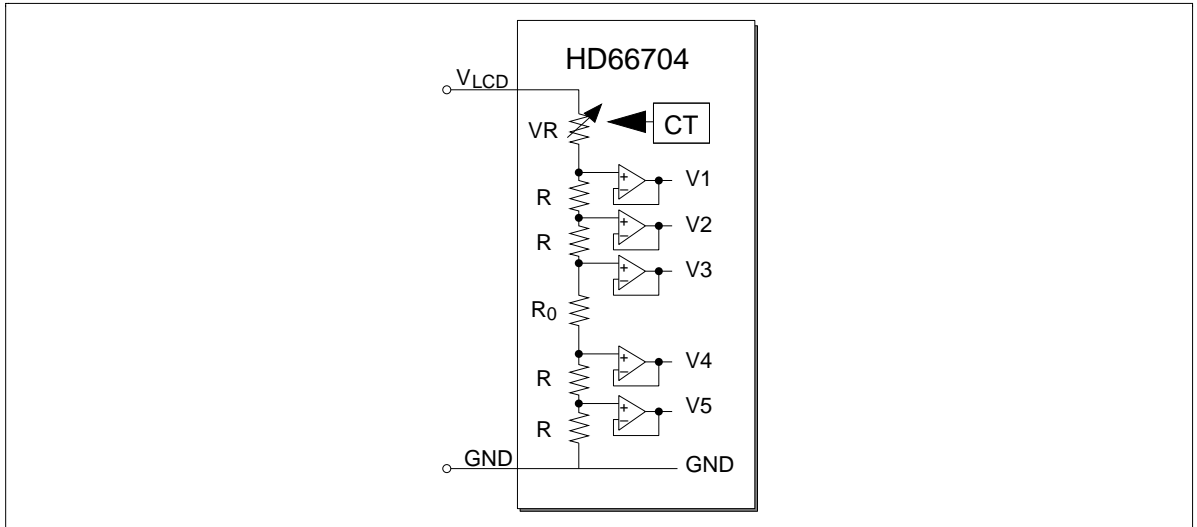

Figure 27 Contrast Adjuster
Contrast for an LCD can be adjusted by varying the liquid-crystal drive voltage (potential difference between VLCD and V1) through the CT bits of the contrast control instruction (electron volume function). See figure 27 and table 23. The value of a variable resistor (VR) can be adjusted within a range from $0.1 \times R$ through $2.5 \times R$, where R is a reference resistance obtained by dividing the total resistance between VLCD and V1.